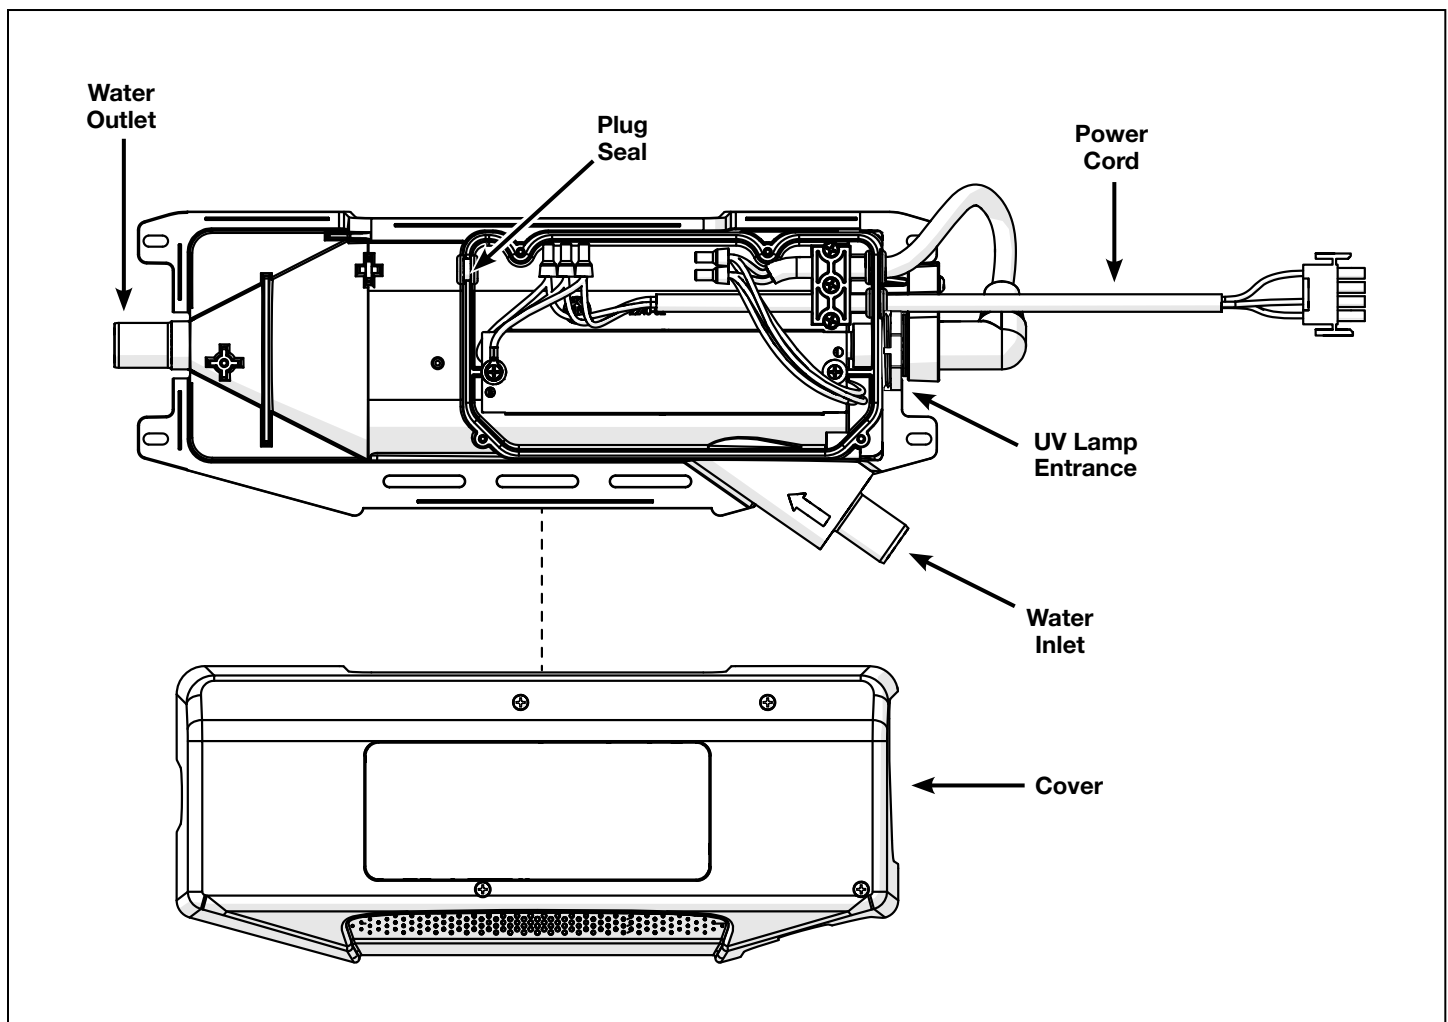

Figure 1. DEL UV-C Spa 2 Components
- When providing maintenance to the DEL UV-C Spa 2 that requires removing the cover, ensure that the Plug Seal is properly placed when the cover is reattached. See Figure 1.